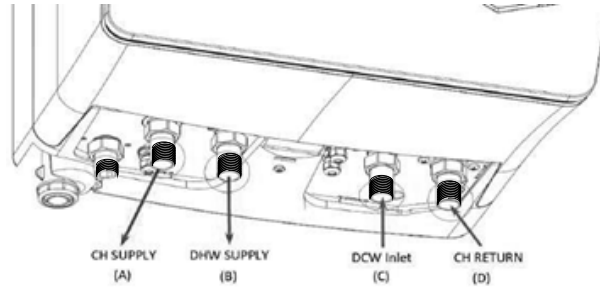

Figure 6.6 DHW connectors, flow limiter location
The supply pipe for cold tap water (Fig. 6.6) is provided with a flow restricter depending on the type of Eco-King boiler (e.g. Eco-King C100A: 8litres/min. (2.1 gal/min) of 60 °C (140 °F)). Connect the cold domestic water inlet to (C) DCW Inlet, Connected the domestic hot water pipe to (B) DHW Outlet.